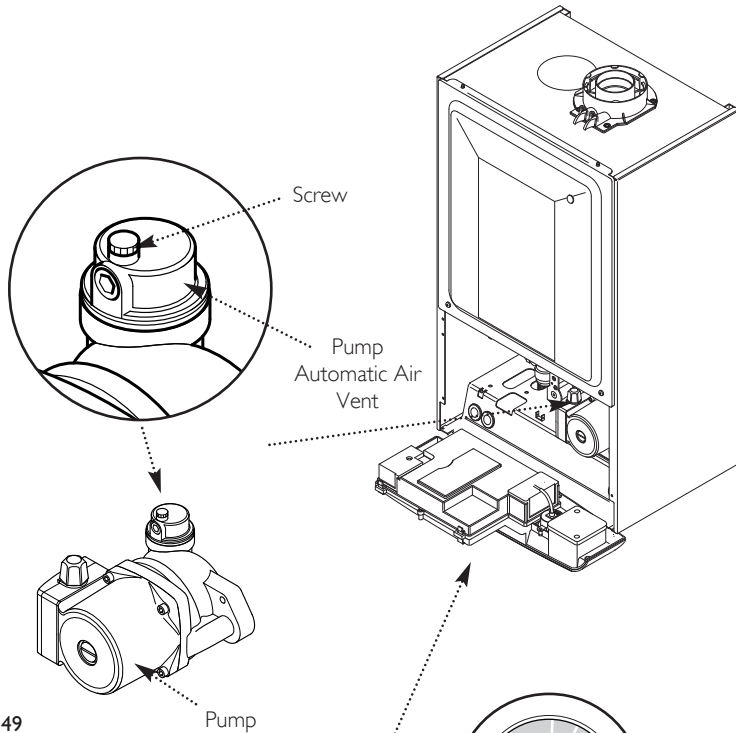

Fig. 49
4. Open the screw on the automatic air vent on the pump body (Fig. 49).